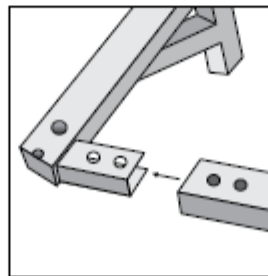

Figure 2
2. Slide the frame and the frame cross bar together, aligning the bolt holes. (See Figure 2)